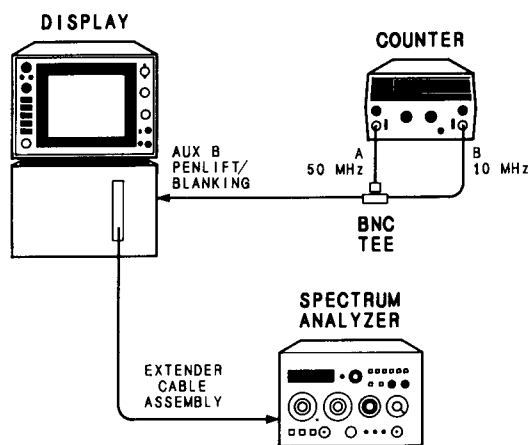

FIGURE 5-2. CALIBRATED SWEEP TIME ADJUSTMENT TEST SETUP
2. Connect equipment as shown in Figure 5-2.